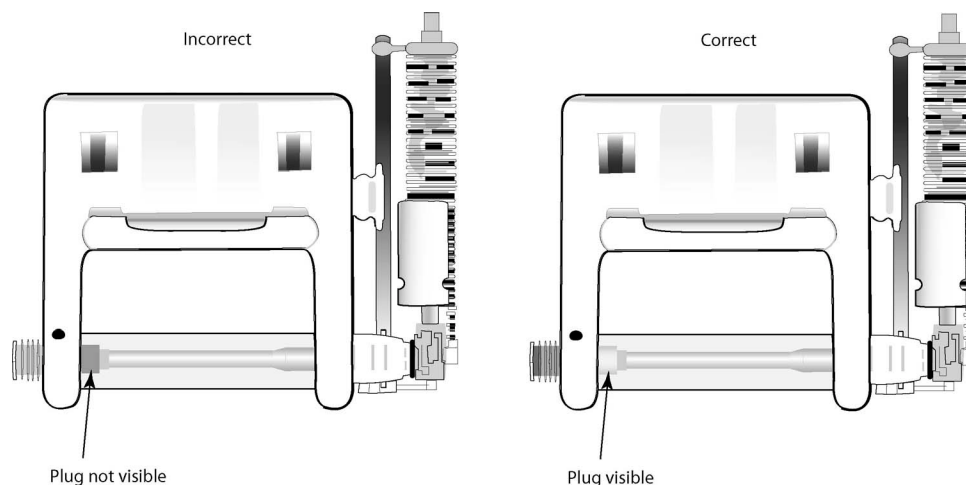

Figure 65. PHSRU X-Ray
(1) Forward complete packed parachute assembly to either non-destructive inspection lab or medical facility for X-ray.
(2) From review of X-ray (Figure 65), if plug assembly is suspected or known to be partially or fully recessed, the unit shall have a shear pin integrity check per WP 024 02.
(3) Record inspection on Parachute Record (OPNAV 4790/101).
(4) Attach X-rays to the Parachute Record (OPNAV 4790/101).
(5) If voltage is below +22.5 volts DC, replace battery per WP 024 02.
(6) Record voltage for each EPA in the Local Use Block on the Parachute Record (OPNAV 4790/101).
e. Account for all packing tools. (QA)